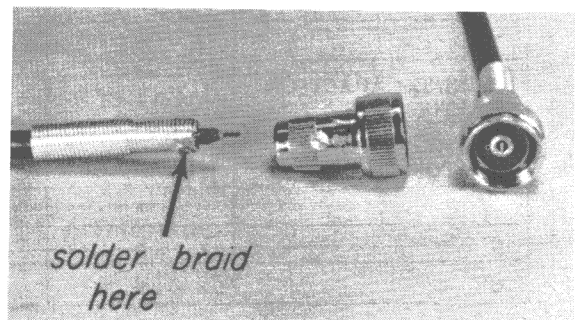

Fig. 21-19
Step 3. Loosen the small screw on the cable connector and pull out the spring. Be careful not to lose this small screw. Holding the cable in one hand, put the large end of the spring over the braid, rotating the spring away from you while you push it over the braid. When the spring is on all the way, about 1/2 inch of braid should extend beyond it. With a nail or test prod, comb out the strands of the braid, separating each strand from the others, and bend them back on the spring smoothly. Cut off all the strands so that they extend back only about 1/8 of an inch on the spring, as shown in Fig. 21-19. Solder the braid to the spring at one point, using as little heat and solder as possible.